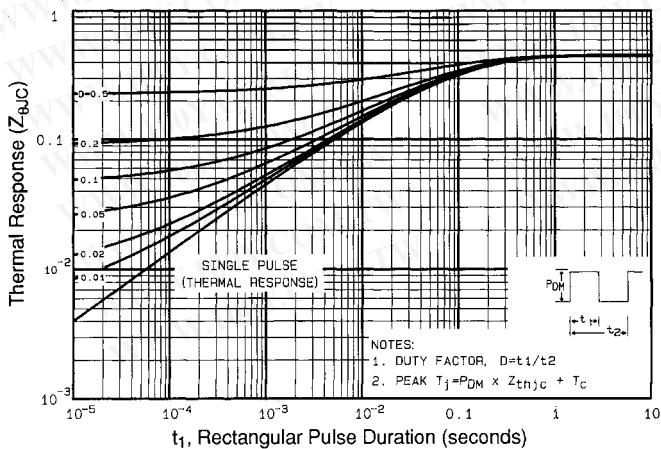

Fig 11. Maximum Effective Transient Thermal Impedance, Junction-to-Case
① Repetitive rating; pulse width limited by max. junction temperature (See Figure 11)
③  $I_{SD}\leq 46\text{A}$ ,  $dI/dt\leq 230\text{A}/\mu\text{s}$ ,  $V_{DD}\leq V_{(\text{BR})\text{DSS}}$ ,  $T_J\leq 150^\circ\text{C}$ ②  $V_{DD}=50\text{V}$ , starting  $T_J=25^\circ\text{C}$ ,  $L=708\mu\text{H}$